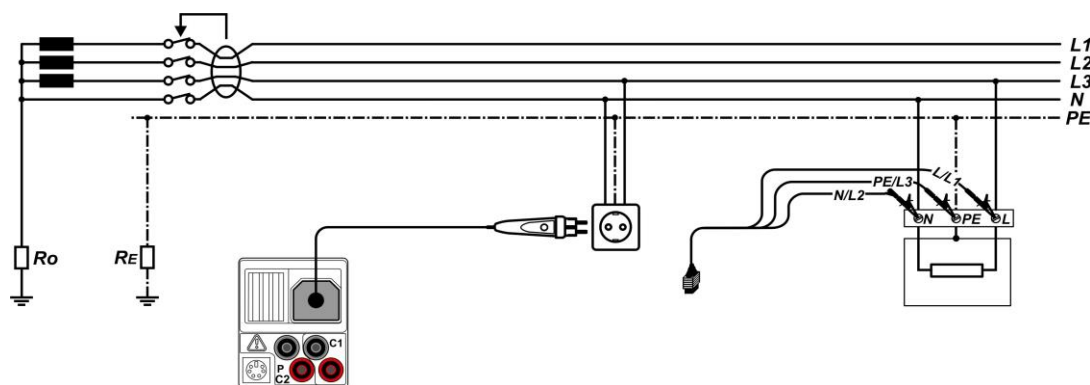

Figure 5.17: Connecting the plug commander and the 3-wire test lead
- ❑ **Connect** test leads to the item to be tested (see figure 5.17).
- ❑ **Connect** test leads to the item to be tested (see *figure 5.17*).
| <ul style="list-style-type: none"> ❑ Select the RCD function using the function selector keys. ❑ Set sub-function AUTO. ❑ Set test parameters (if necessary). ❑ Connect test cable to the instrument. ❑ Connect test leads to the item to be tested (see figure 5.17). ❑ Press the TEST key to perform the test. | Start of test |